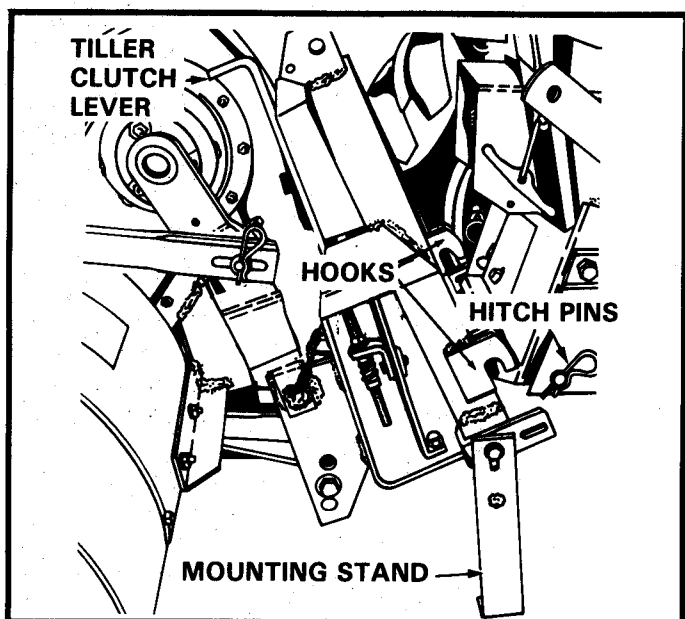
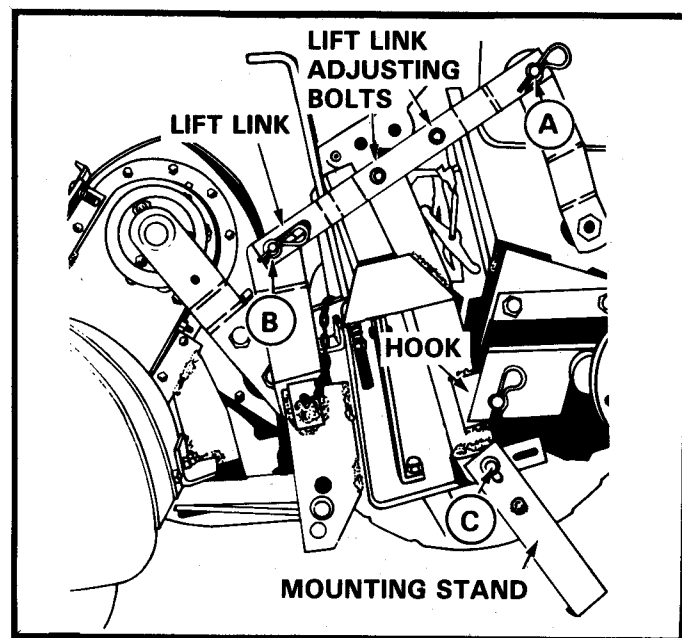

FIGURE 2
FIGURE 3
1. Lower the mounting stands with tiller on solid ground or floor as shown in Figure 2.
3. Slowly back the tractor up to the tiller, being careful to align the hitch pins with the tiller attaching hooks, Figures 2 and 3. Continue backing the tractor until the hooks are secured to the tractor hitch pins and the mounting stands have been forced forward as shown in Figure 3.
NOTE: THE ATTACHING HOOKS MUST BE HIGH ENOUGH TO CLEAR THE TRACTOR HITCH PINS. IF HOOKS DO NOT CLEAR THE PINS WHEN TRACTOR IS BACKED UP, LOOSEN BOLTS "C", FIGURE 3, EACH SIDE AND MOVE THE MOUNTING STANDS DOWN IN THE SLOTTED HOLES AS REQUIRED. TIGHTEN BOLTS "C".
4. Start the tractor and move the Lift Lever to the down position until the rock shaft arms are completely lowered. Attach lift link to the right hand tractor rock shaft arm with a drilled rivet and hairpin cotter at "A", Figure 3. Secure lift link to the lift link support with a clevis pin, two flat washers and hairpin cotter at "B". Install flat washers over the slotted holes as shown.
3. Turn engine off. Disconnect the lift link from tractor rock shaft arm at "A", Figure 3.
5. Rotate the mounting stands down, Figure 2, start engine and slowly drive the tractor forward. The mounting stands will cause the tiller to raise, disengage the hooks from the tractor hitch pins.